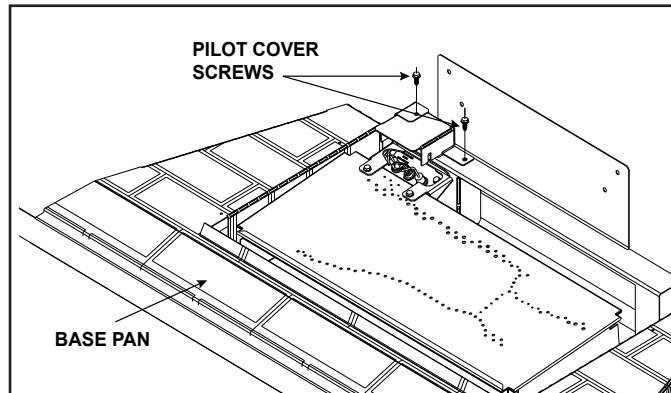

Figure 9.16
- Remove 2 pilot cover screws. See Figure 9.16.